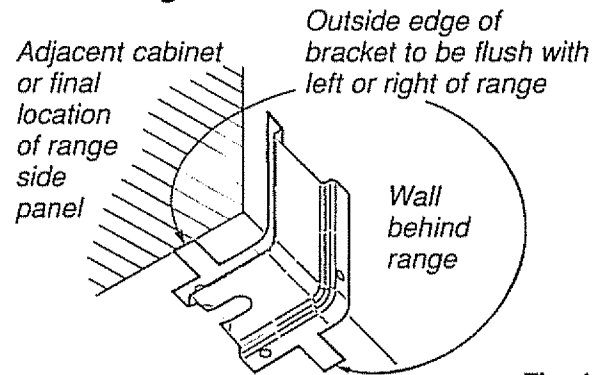

Fig. 1
3. If the bracket side of the range is adjacent to a cabinet, place the bracket against back wall and cabinet as shown in Figure 1. If there is no adjacent cabinet, determine where the location of the range side (painted outside panel) will be. Place the bracket with its outside edge at this location and against back wall. See Figure 2.